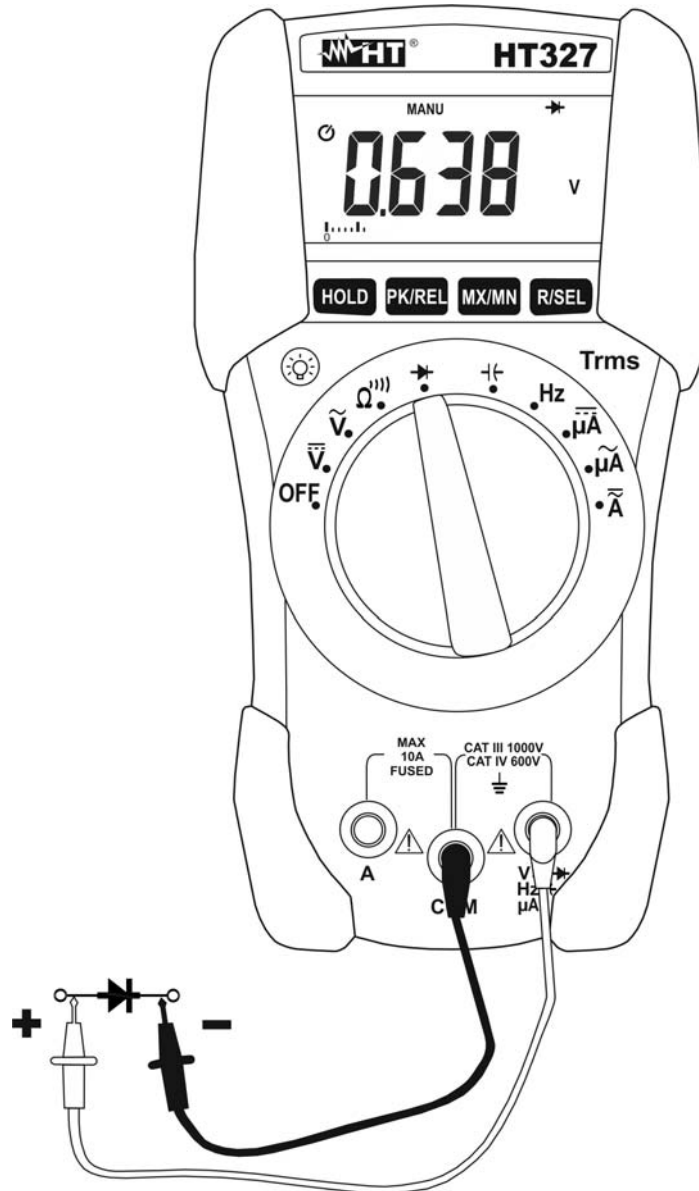

Fig. 7: Using the instrument for Diode test
3. Connect the test leads to the diode under test observing the proper polarities (see Fig. 7). The threshold voltage value of direct polarization is shown at display. The meter displays the diode voltage to approximately 0.4 ~ 0.9V for good junction.